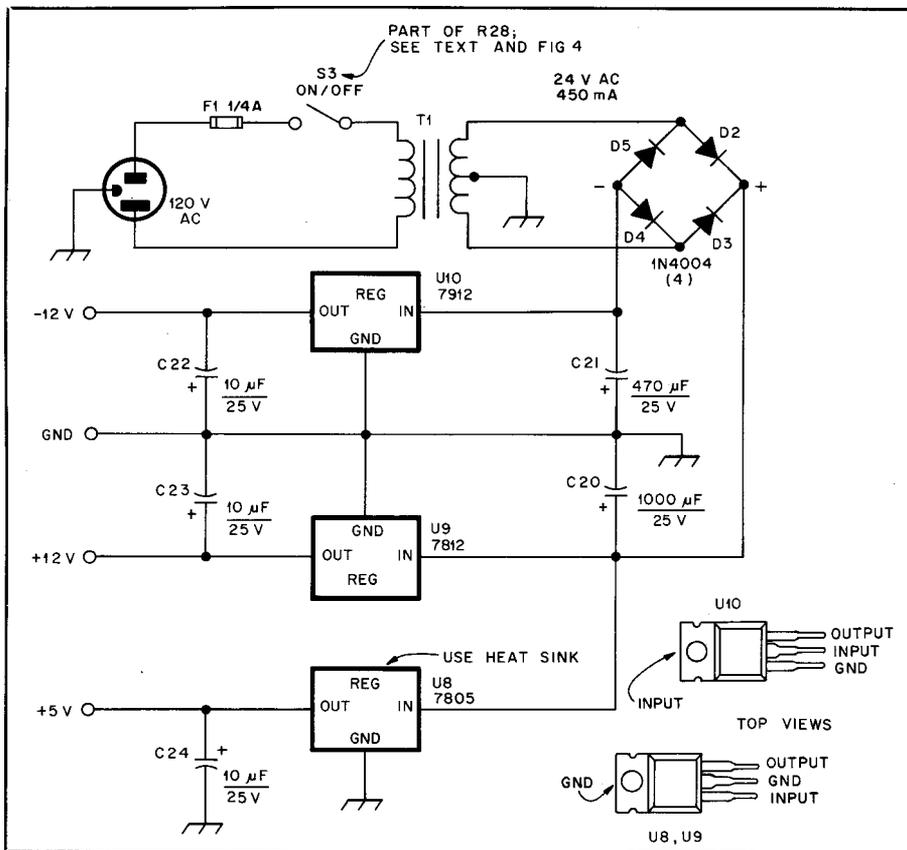

Fig 5—Schematic diagram of the power supply. (RS numbers in parentheses are Radio Shack stock numbers)
Fig 1—An inside view of the Orator. A Radio Shack enclosure (RS 270-272) houses the components. To avoid having machine-screw heads on the cabinet top, the speaker is held in place by a bead of silicone sealant. (If you follow this procedure, make sure the sealant you use does not contain acetic acid.) At the left foreground, you can see the speech processor chip. Immediately behind it is the 68701 microcomputer. The U8 and its heat sink are visible in the right foreground. Note that T1 fits snugly within the enclosure. If you use a power transformer other than the one specified in the parts list of Fig 5, make sure everything will fit within your chosen enclosure. This unit has no panel labels because it was built for use by a blind ham.
See Fig 5. Three voltage levels are needed for the Orator circuit: +12, -12 and +5. U8, the 5-V regulator, requires a heat sink because of its heavy load. U9 and U10, the positive and negative 12-V regulators, respectively, supply little current and do not require heat sinks.
- Note: S3 of Fig 5 mounts on the rear of this control.